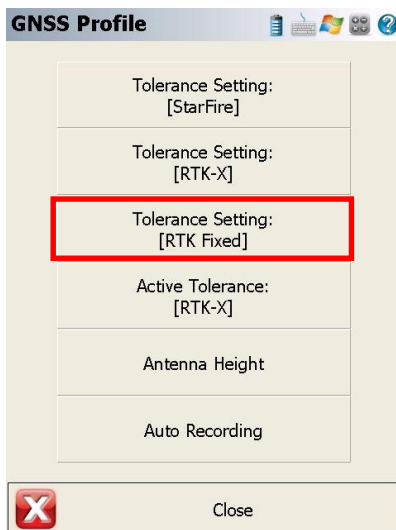

Figure 57: GNSS Profile/Tolerance Setting [RTK Fixed]
5. Figure 57), click Tolerance Setting [RTK Fixed].